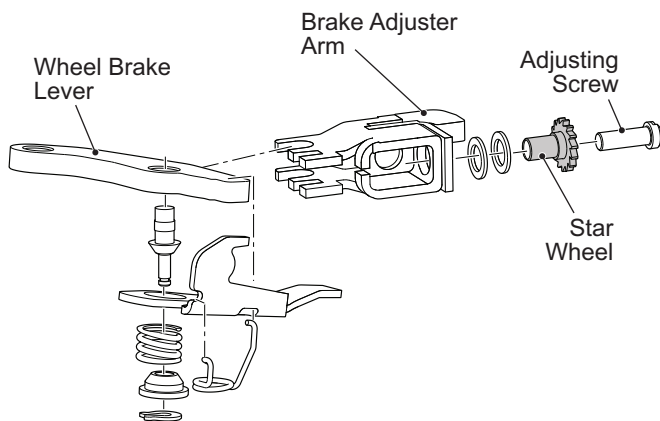

Figure 15 Adjuster Mechanism
- Observe the brake adjuster arm and note if the arm engages the star wheel and tries to rotate it (Figure 15).
If the adjuster arm engages the star wheel but **fails to rotate it**, the adjuster assemblies must be replaced with new color-coded adjusters. Note the location of the two Teflon coated washers (Figure 15).
7. Check the condition and operation of the moving anchor assembly (Figure 15). Operate the brake lever to check for free motion. The adjuster assembly and brake lever should move smoothly from front to back on the backing plate. If the moving anchor assembly is damaged or jams against the backing plate, replace both wheel brake assemblies.